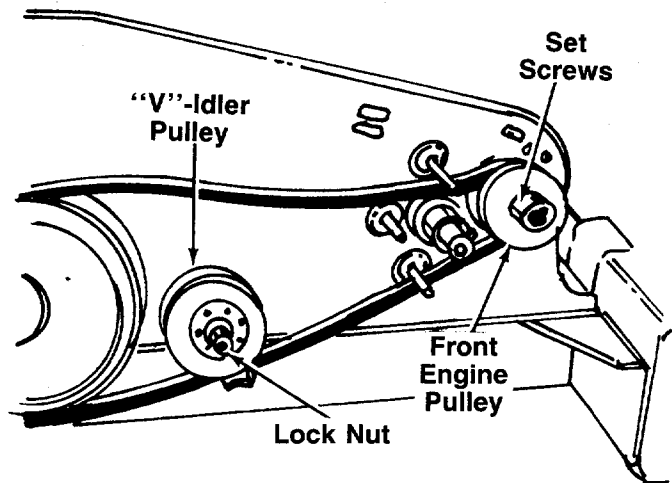

FIGURE 23.
3. Loosen the two set screws on the front engine pulley. See figure 23.
4. Remove the lock nut on the "V"-idler pulley. See figure 23.